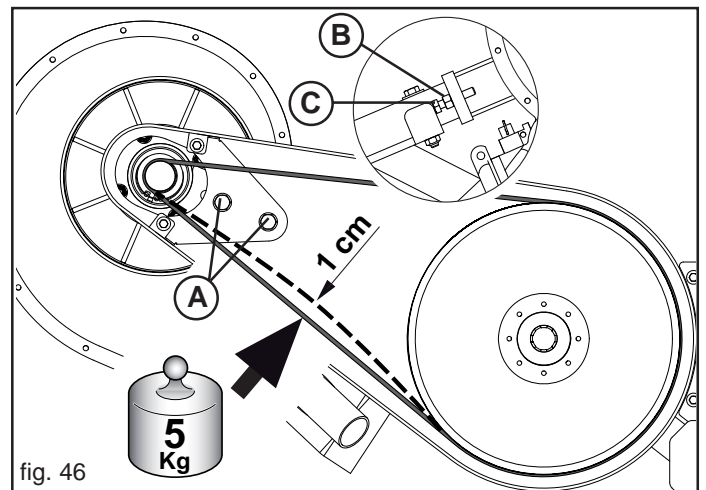

fig. 46
Remove the protective housing. Press on the middle part of the belt between the two pulleys with a 5 Kg force. Each belt should give max. 1 cm (Fig. 46).
- Loosen the screws (A, Fig. 46);
- Loosen the nut (B, Fig. 46);
- With the screw (C, Fig. 46) to regulate the tension of the belt and to block with the nut (B);
- Tighten the screws (A) loosened before and close the casing.